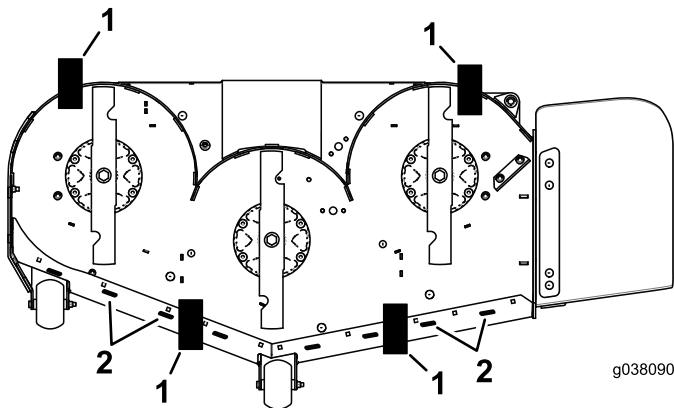

**Figure 104**
10. Slowly loosen the adjusting screw on the lift-assist spring until you can remove the screw (Figure 104).